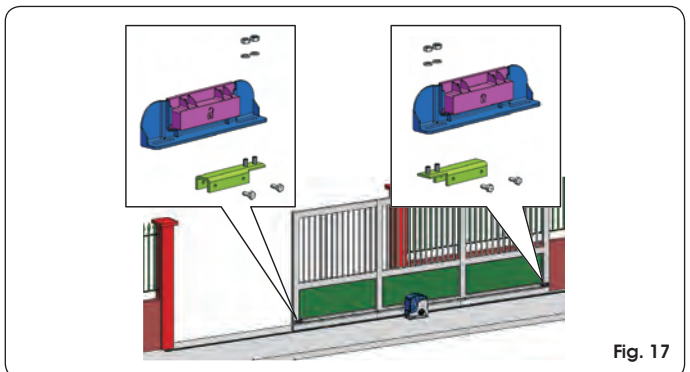

Fig. 17
The operator has a magnetic limit switch, which commands gate motion to stop when the magnet, which is secured to the upper part of the rack, activates the sensor. The magnets supplied with the operator are specifically polarised and activate only one of the sensor's contacts: the closing or opening contact. The magnet activating the open gate contact bears an open padlock symbol, and, vice versa, the magnet activating the closed gate contact bears the closed padlock symbol (see Fig. 17). Procedure for correct positioning of the two travel-limit magnets:
- ① Assemble the two magnets as shown in Figure 17.
- ② Set the operator to manual mode operation - as per paragraph 8 - and power up the system